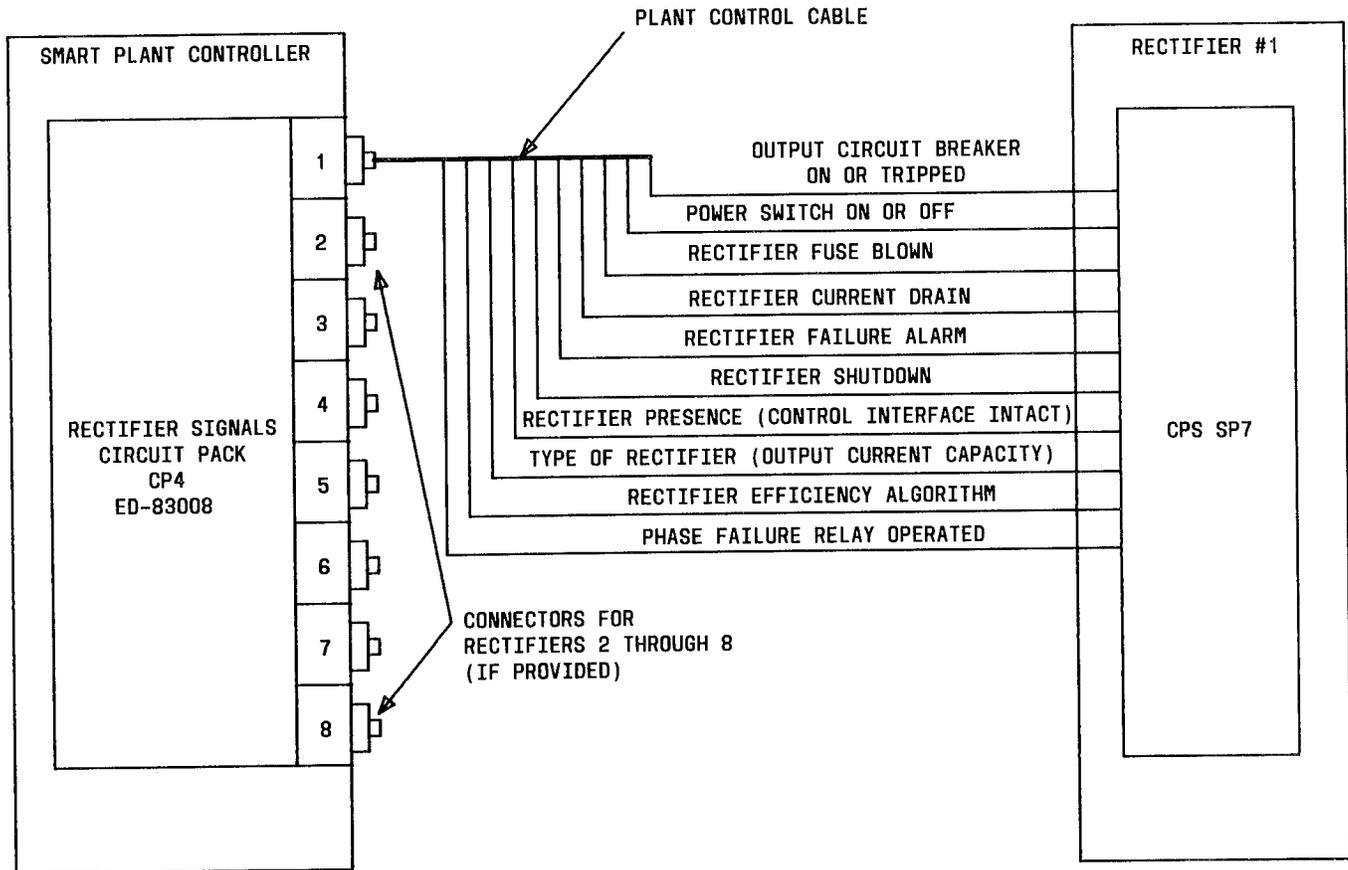

Fig. 6—Signal Flow Between Rectifier and Smart Plant Controller
3.05 The interface between the rectifier and the smart plant controller is the CPS SP7 circuit pack located in each rectifier. Refer to Fig. 6 for a block diagram of the signals monitored between the rectifier signals circuit pack(s) ED-83008 (CP4) in the smart plant controller and the CPS SP7 circuit pack in each rectifier. The CPS SP7 circuit pack in each rectifier receives commands from the controller to turn the rectifier on and off.